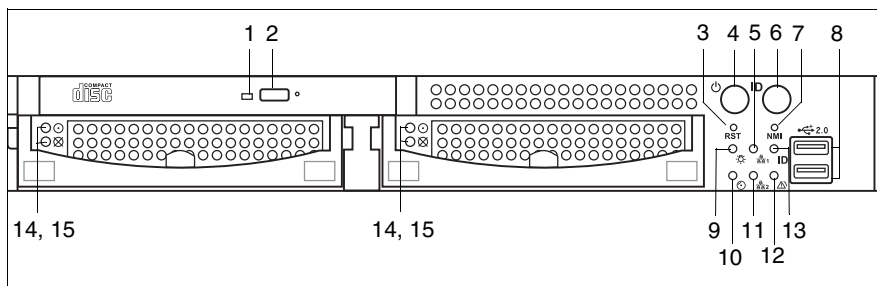

Figure 9: Operating elements and indicators on the front
The power-on indicator (position 11 in figure 9 on page 43) lights amber.
- ▶ Press the ON/OFF button (position 9 in figure 9 on page 43).
The power-on indicator (position 11 in figure 9 on page 43) lights green.
- ▶ Press the ON/OFF button (position 9 in figure 9 on page 43) or send a corresponding control signal (see “Other ON/OFF options” on page 50).
The power-on indicator (position 11 in figure 9 on page 43) flashes green. The CPU, the system fans and the drives have been slowed down.